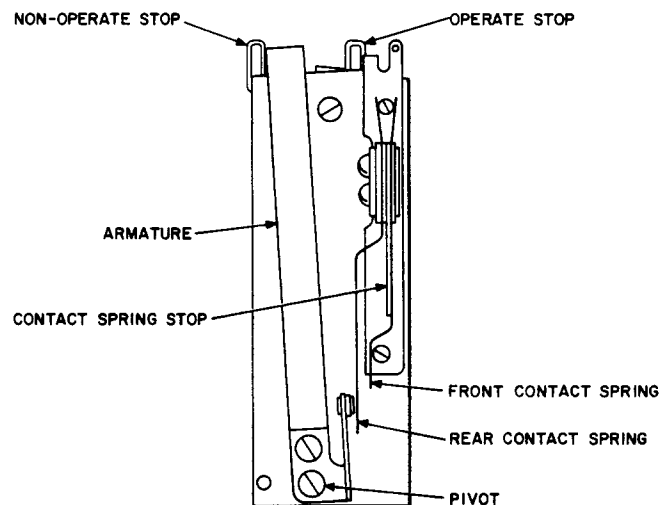

Fig. 4 — 85P-Type Relay — Arrangement of Operating Parts
(2) 85P-Type Relay — The armature shall work freely and shall not rub against the frame of the relay. See Fig. 4.